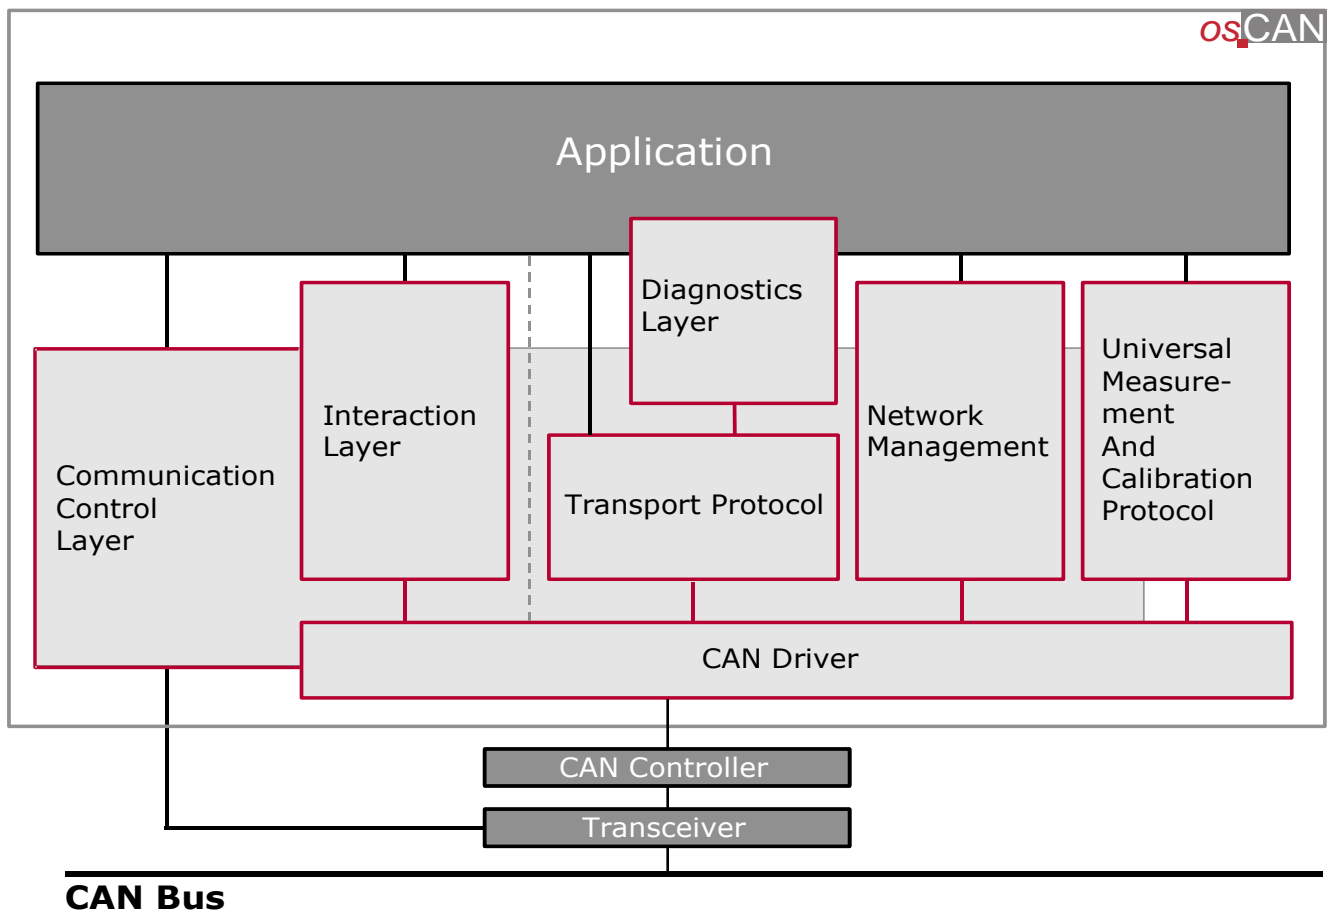

Figure 3-2
The implementation of the Network Management (NM) is intended to relieve the application of communication tasks. The NM is one of the communications modules of CANbedded offered by Vector Informatik GmbH. It is adapted to the specific requirements of General Motors. The CANbedded communication modules are organized in layers as shown in Figure 3-2. They consist of the Interaction Layer, the Network Management, the Transport Protocol, the Diagnosis Layer, the CAN Calibration Protocol and the CAN Driver (Data Link Layer).